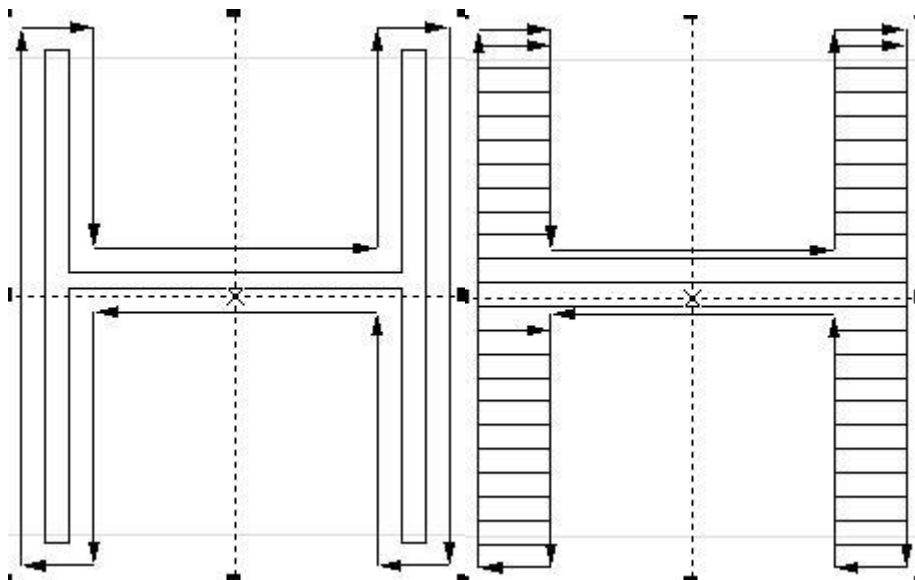

Fig.3-8 Left is Ring Hatch filling, Right is Optimized bidirectional hatch filling
**Ring Hatch:** the hatch lines will be marked from outside to inside of the object contour in a circular and skewing manner. As shown on the left of Figure 3-8.
**Ring filling:** filling lines is object outline, from outside to inside cycle offset fill. As shown on the left of Figure 3-8.
**Optimized bidirectional hatch:** It is similar to bidirectional hatch, but the ends of hatch lines will connect. As shown on the right of Figure 3-8.
**Bow shaped filling:** Similar to a two-way fill, but there are connecting lines between the ends of the fill lines. As shown on the right of Figure 3-8.